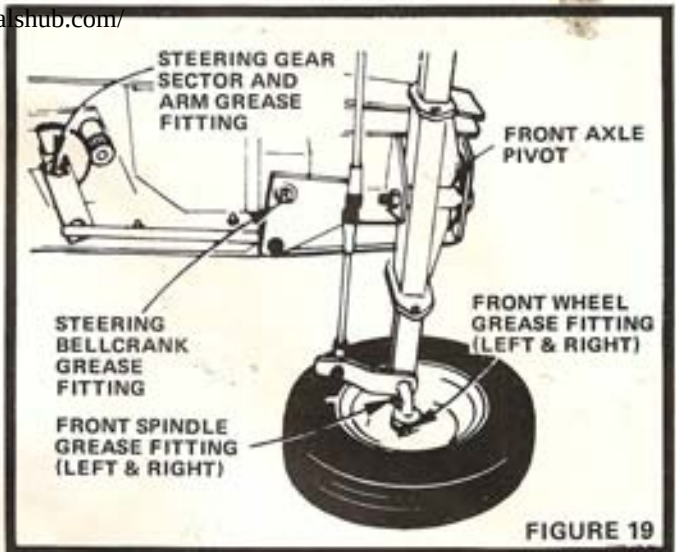

FIGURE 19
There are six Grease Fittings on your Tractor (Fig. 19). Using a Grease Gun, give each Grease Fitting two shots of Extreme Pressure Lubricating Grease Amdex No. 1 (available through your Sears store).
- Front Axle Pivot (Fig. 19).